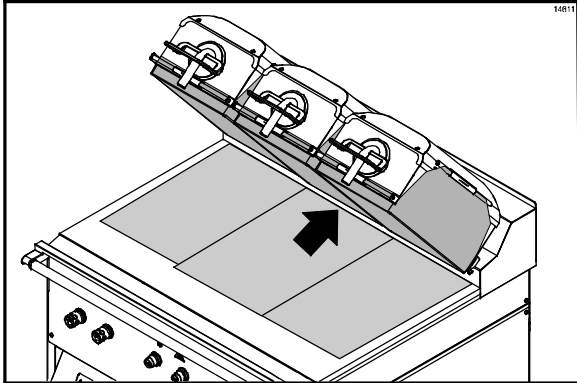

Figure 77
- Align the back edge of the third lower release sheet with the back splash and middle of the grill. The release sheet will overlap the edge of the other two release sheets. (See Figure 77.)